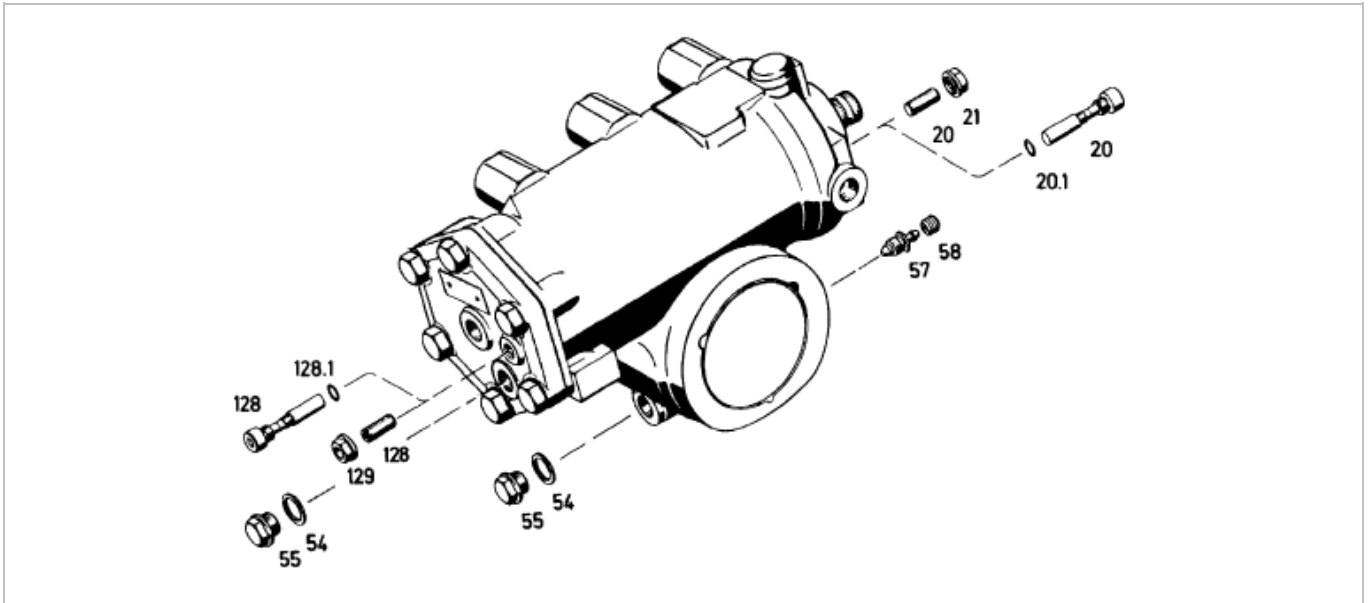

Fig. 7: Steering gear with bleeder
1. With the engine running, open the bleeder (57) until nothing but oil is coming out (Fig. 7).